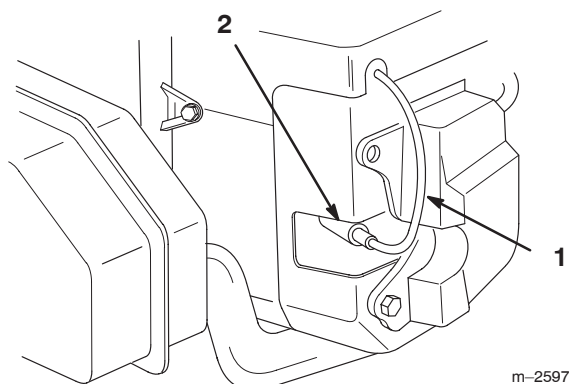

Figure 23
2. Pull the wire(s) off the spark plug(s) (Fig. 23). Now clean around the spark plug(s) to prevent dirt from falling into the engine and potentially causing damage.
3. Push the wire(s) onto the spark plug(s) (Fig. 23).